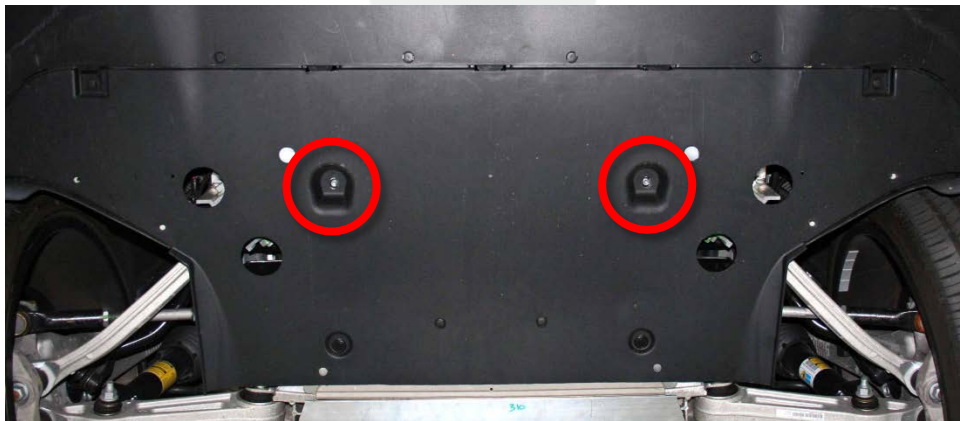

Figure 18
10. Reinstall the bolts (1014288-00-B) through the undershield and the skid bar (4 Nm) (Figure 18).